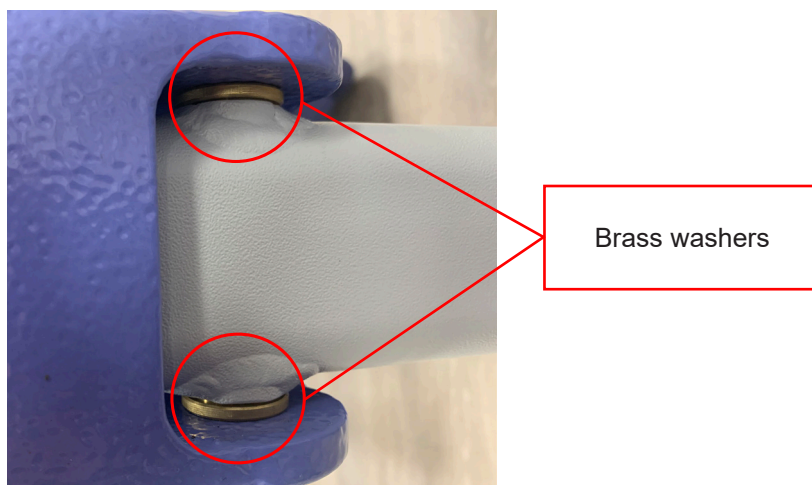

Fig. 1
1. Replacement of the leg is a direct reversal of the removal procedure, however, prior to inserting the leg pivot, lubricate with a light mineral based grease or food grade lubricant. Additionally, ensure the leg upper and lower brass washers are correctly inserted into the leg. See fig. 1.